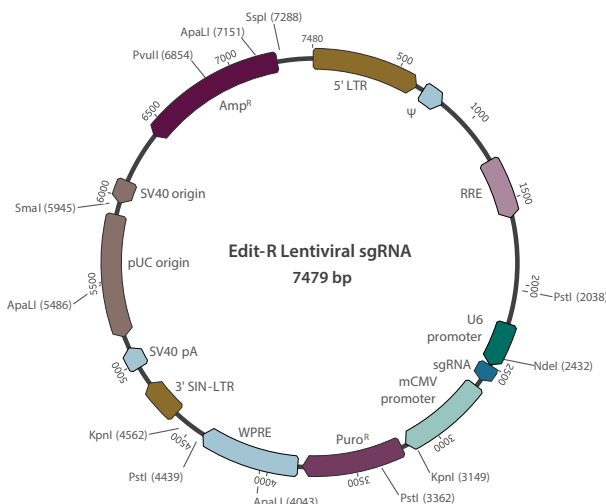

Figure 1. Restriction map of the Edit-R Lentiviral sgRNA vector.
6. Edit-R Lentiviral sgRNA plasmid is 7.5 kb. See the vector map (Figure 1)